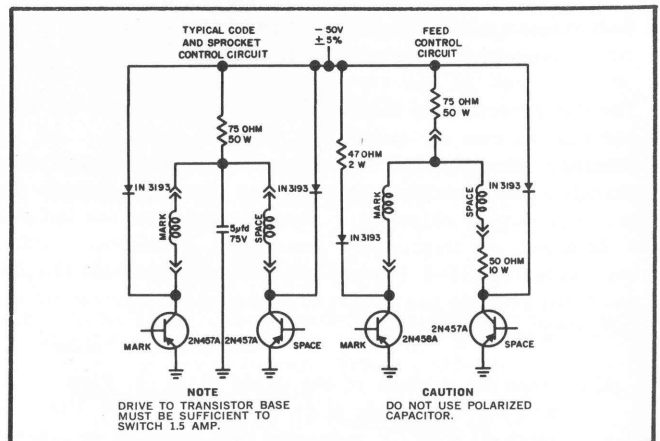

Figure 2-2. Typical Circuits for Code, Sprocket and Feed Magnet Control
2-9. CONTROL CIRCUIT REQUIREMENTS. The warranty of the GP-2-300 Perforator requires initial over-voltage series dropping resistor circuitry in the 50 volt d-c magnet control circuits. The diodes, resistors and transistors of the schematic circuit, Figure 2-2, are not supplied as part of the GP-2-300P System. The left half of the schematic (Figure 2-2) is the code and sprocket mark and space magnet control circuits. The diodes, resistor and transistor circuitry must be supplied for each data level circuit and for the sprocket control circuit. The right hand half of the schematic is the tape feed mark and space magnet circuitry. The diode, resistor and transistor circuitry must be supplied for the tape feed control circuit.
2-18. GP-2-300 PANEL (Figures 2-2 and 2-3).
- (a) Provide the code magnet and sprocket control circuits in the left hand portion of Figure 2-2 for each data level and one for the sprocket control circuit. For example, an eight level system requires nine of these circuits.
- (b) Provide the tape feed magnet control circuit in the right hand portion of Figure 2-2. Only one of this circuit is required.